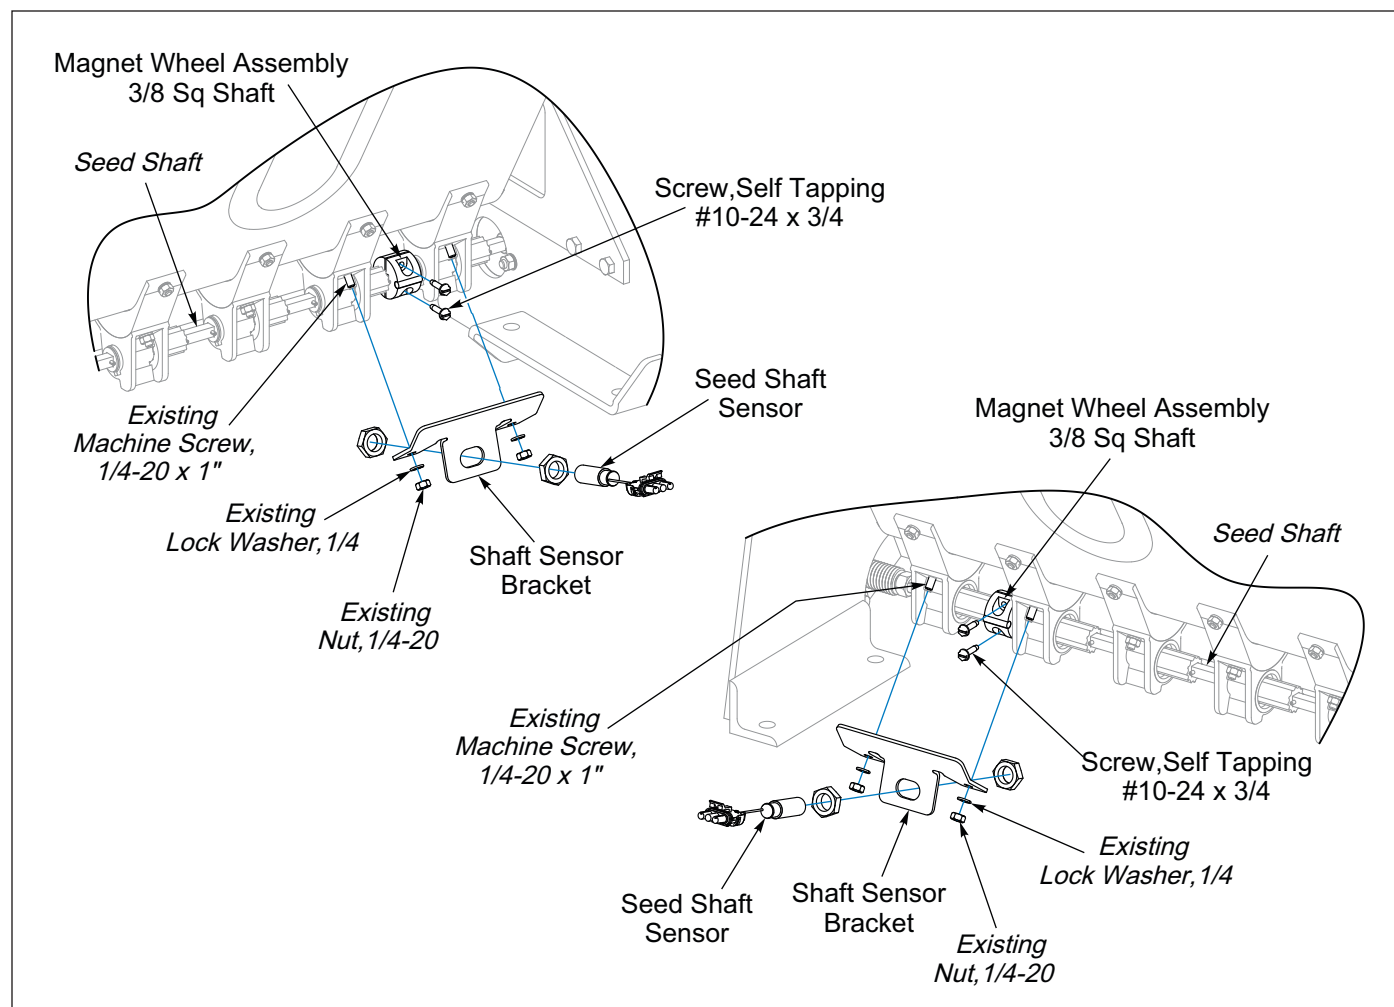

Figure 2-37: Console w/Clutch Control - Seed Shaft Sensor
1. Remove the two #10 x 24 x 3/4 Self Tapping Screws from the Magnet Wheel Assembly. Position the rounded half of the Magnet Wheel Assembly on the seed shaft. Ensure it fits squarely onto shaft. Mount magnet half to the rounded half. Ensure it fits squarely onto shaft. **See Figure 2-37.**